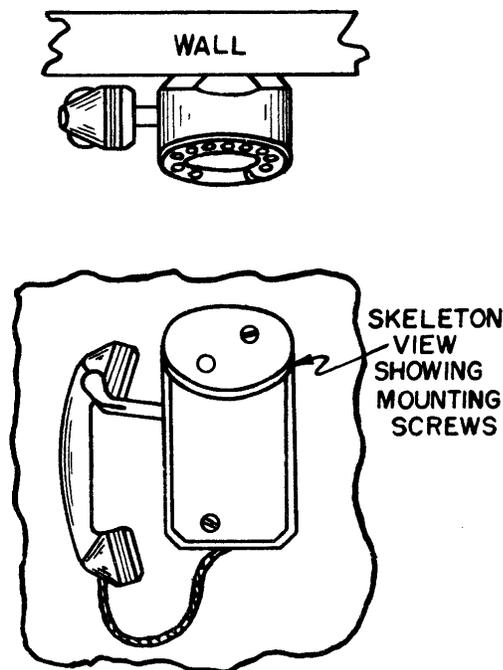

Figure 4. Wall mounting.
6. WALL MOUNTING (figure 4)
At least two of the three holes in the base should be used to mount the Monophone, preferably the *C* hole and one of the *B* holes. Use No. 8 screws suitable for the surface upon which the Monophone is to be mounted. Figure 4 shows the Monophone mounted flat on a wall.